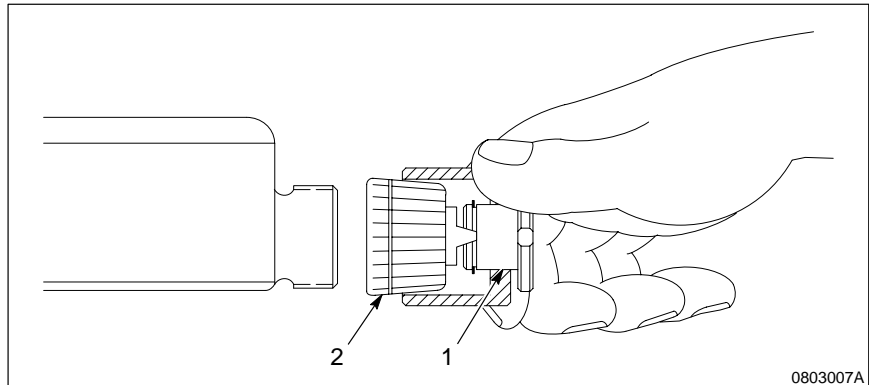

Fig. 7 Using the nozzle tool
3. Remove the electrostatic cable retaining nut from the gun body (31).
4. See Figure 7 and use the nozzle tool (1) to remove the nozzle retaining nut (2) and the turbulence plate or restrictor.
3. See Figure 7. Use the nozzle tool (1) to install the nozzle (2) on the gun.